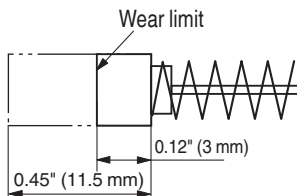

Fig. 11
5. Inspecting the carbon brushes (Fig. 11)